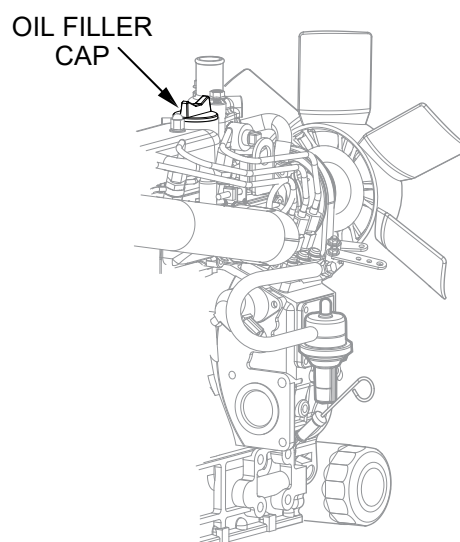

Figure 15. Engine Oil Filler Port
5. If the engine oil level is low (Figure 14C), remove the cap from the oil filler port (Figure 15) and fill to a safe operating level (max) as indicated by the dipstick (Figure 14A). Fill with the recommended oil type as listed in Table 10. Maximum oil capacity is 2.64 quarts (2.5 liters).